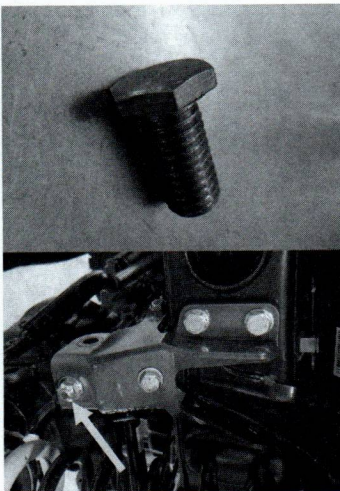

**Figure 1. Removing Frame Side Track Bar Bolt**
2. Unbolt the front track bar from the frame side mount and let it hang down. This is usually easiest with the vehicle on the ground. If the bolt is still under tension, use ratchet straps to pull the axle to one side or the other in order to free up the bolt to get it out, or have someone turn the steering wheel if the vehicle is still on the ground. See **Figure 1**.